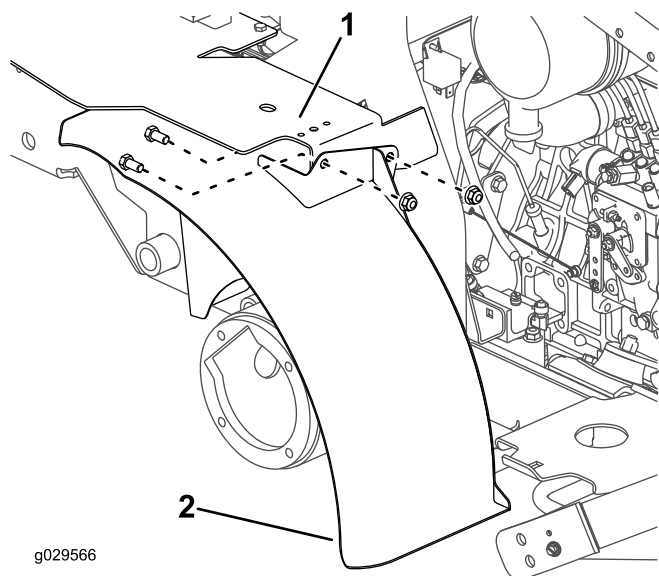

Figure 9
6. Loosely mount the bracket on the top of the left fender to the fuel-tank bracket with 2 bolts (3/8 x 3/4 inch) and 2 nuts (3/8 inch) as shown in Figure 9.